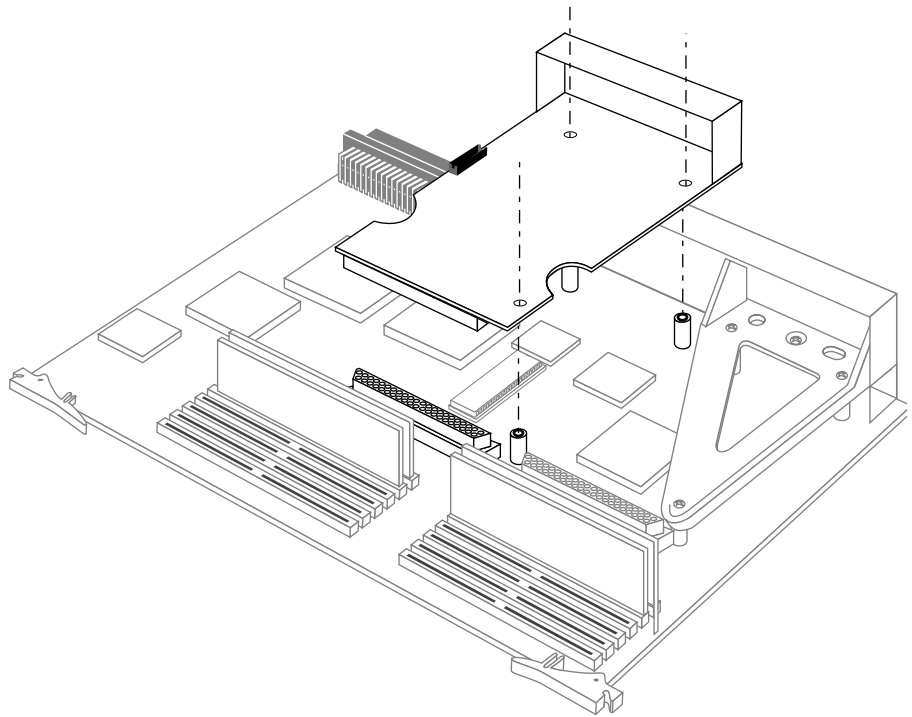

Figure 8 Positioning the Cosmo Compress Board
3. Position the Cosmo Compress board (See Figure 8).
- Place the Cosmo Compress board loosely on top of the CPU board so that the male connector on the bottom matches the female slot connector on the CPU board, as shown in Figure 8.
- Check that the Cosmo Compress board's screw holes shown in Figure 8 are sitting directly above a matching hole in the CPU board.
6. Use three of the screws removed previously to secure the Cosmo Compress board to the CPU board in the locations indicated in Figure 8.